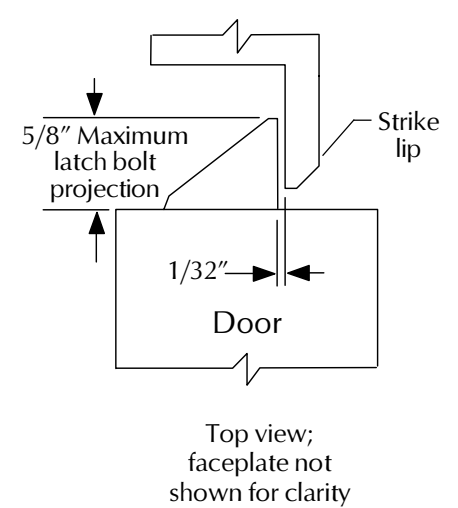
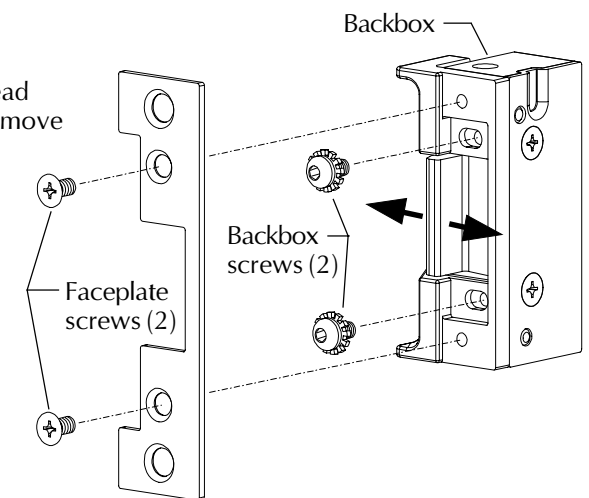

Figure 9
Figure 10
- Install strike with two #12-24 mounting screws. Make sure clearance between latch bolt and strike lip is 1/32 inch (Figure 9). If not, remove strike, adjust (Figure 10), and reinstall.